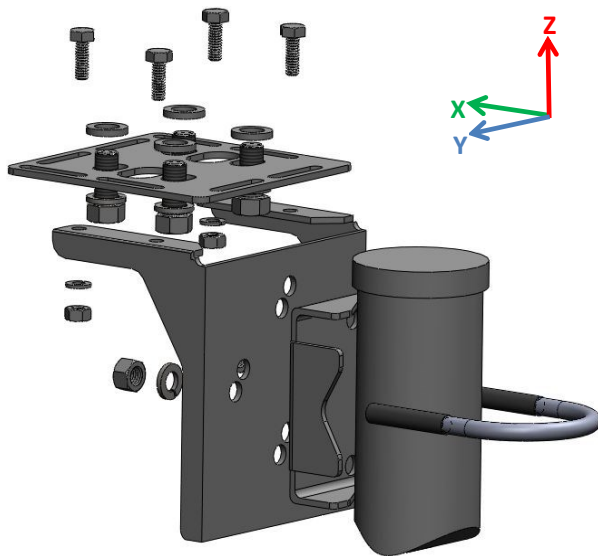

Figure 1: Universal L Bracket Kit Overview
Figure 1 displays that adjustments in the Red (Z) direction can be accomplished by physically installing the bracket at different pints along the vertical pipe stand. However, if the transmitter is mounted to a horizontal pipe or if it is a panel mount, then the two offset holes on the back of the L Bracket that accept the U-bolt can be used to make small adjustments in the Red (Z) direction. This is useful when trying to align electrical connections with previous transmitter installations.